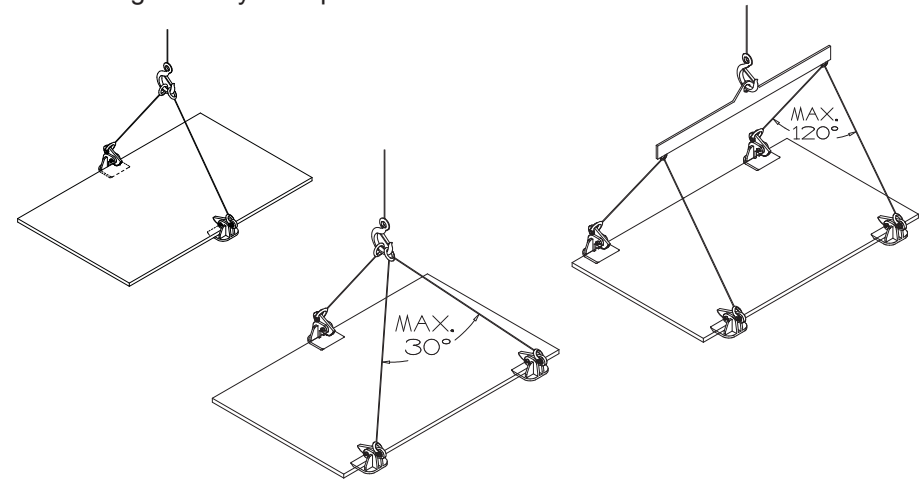

Figure 1
4. The HL series models are used in pairs, sets of pairs, or in a tripod configuration (Fig. 1).